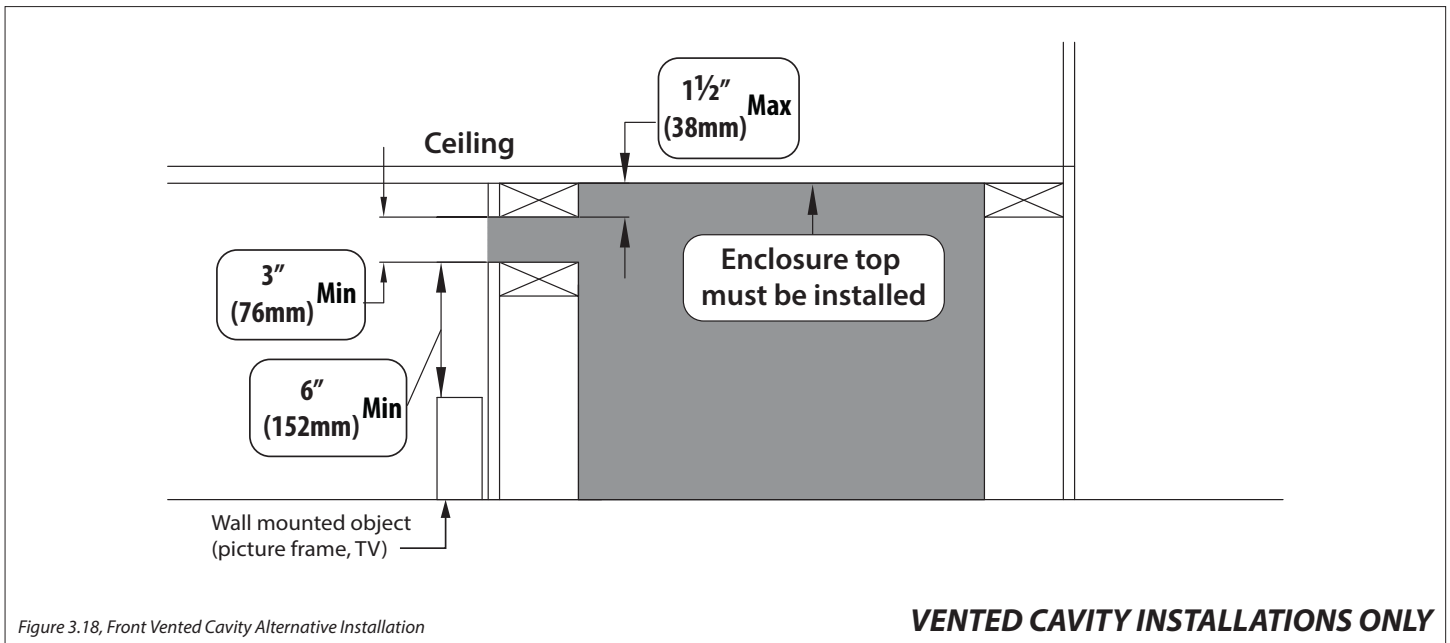

Figure 3.18, Front Vented Cavity Alternative Installation
- Figure 3.18 shows an alternative installation method where you cap off the fireplace cavity so the air discharge opening can be located further down the fireplace chamber. 1-1/2" (38mm) is the maximum drop for framing the air discharge opening to the fireplace enclosure top. This avoids trapping heat in the upper areas of the vented cavity enclosure. Framing the outlet any lower than 1-1/2" (38mm) will cause over heating create a fire hazard. If you cap the fireplace cavity off, it cannot have any vent pipe running through the top with a ceiling firestop. This installation method can alleviate any possible concerns with paint discoloration from heat or dust.